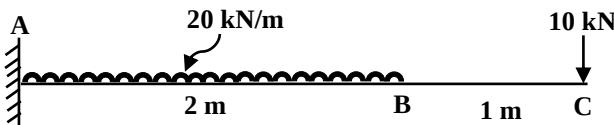

FIGURE -3
- (c) Draw Shear Force diagram and bending moment diagram for beam shown in **figure-3**. 07